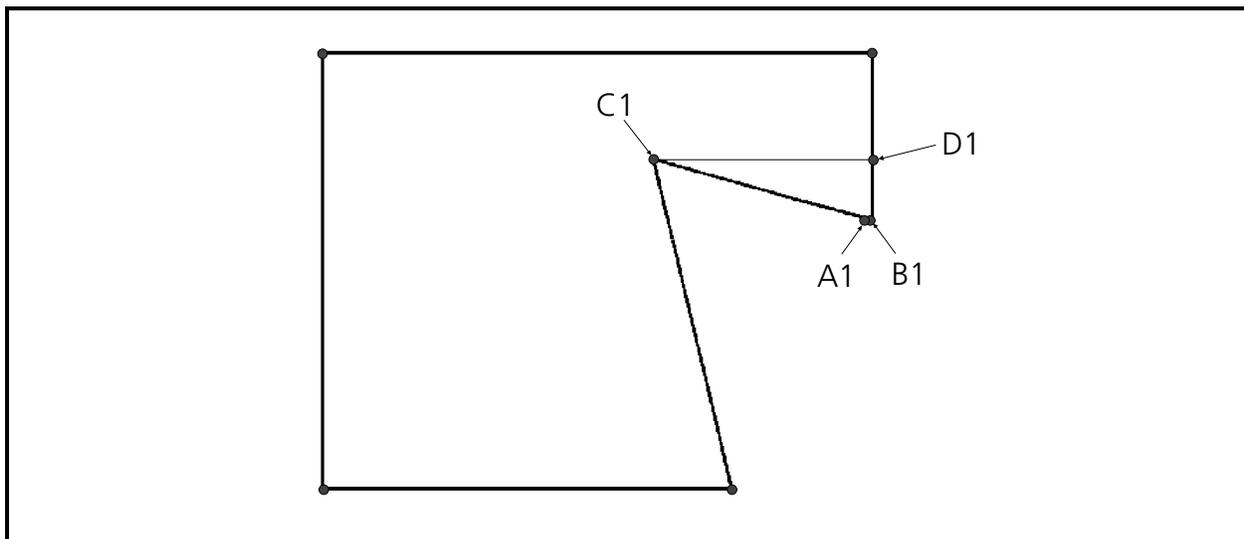

Figure 6-72
5. Enter a Mk1 at A1 in the illustration in Figure 6-72. This will identify the 'A' end of the first line of the first fill.
9. Enter a Mk2 at point B1 as shown in Figure 6-72. This identifies the start of the first side of the fill.